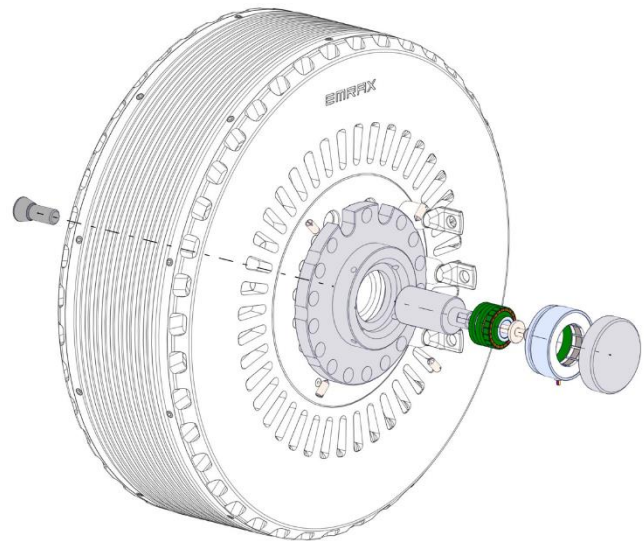

Figure 5: Resolver assembly
3. Insert the rotor assembly into the backside of the motor, inside the motor shaft (as shown on figure 5). Before inserting the part use threadlocker glue on the faces, where the parts are mated.